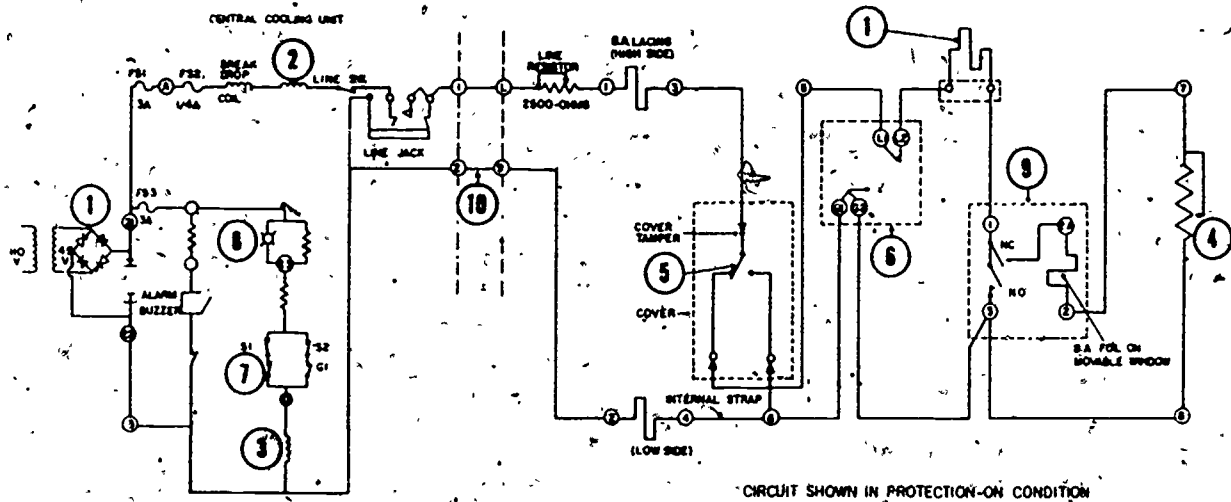

Figure 1. Schematic Wiring Diagram of Central and Local Control Units
2. Using the schematic in figure 1 and 2 (a) trace over the night supervisory circuit with a red color pencil, (b) trace the day supervisory circuit with a blue pencil, (c) and trace the alarm circuit with a green color pencil.
3. In the spaces below, write in the nomenclature of the items identified in figure 1 by corresponding numbers.
1. Using the trainer, figure 1 of workbook and meter, locate and correct any trouble found in the system.
Using figure 1 in your workbook, identify the numerical components by matching the number with the name.